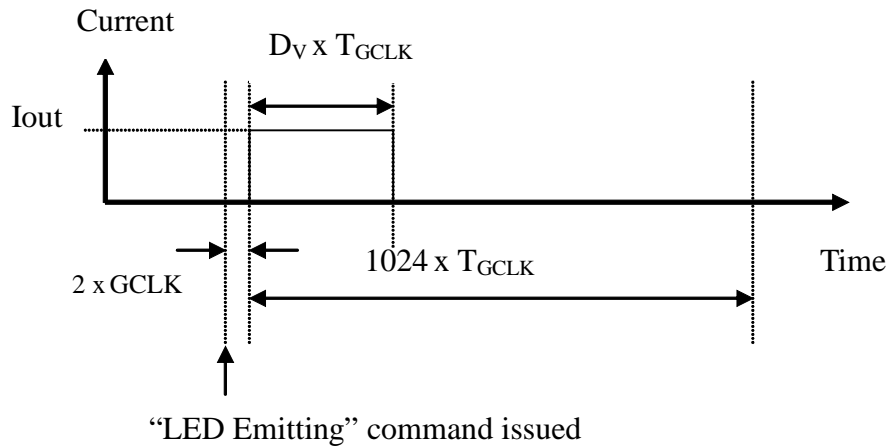

Figure 2. PWM Current Output
- B. There are 2 GCLK latencies between the latched *LED Emitting/Disable* command and PWM start/stop. This is shown in Figure 2.
ST2226A adjusts the LED luminance using PWM (pulse width modulation) technique. The luminance data ( $D_V$ ) has a resolution of 10 bits (1024 steps) and can be set independently for each LED. The relationship between  $I_{out}$ , luminance data, and emitting time is shown in Figure 2.